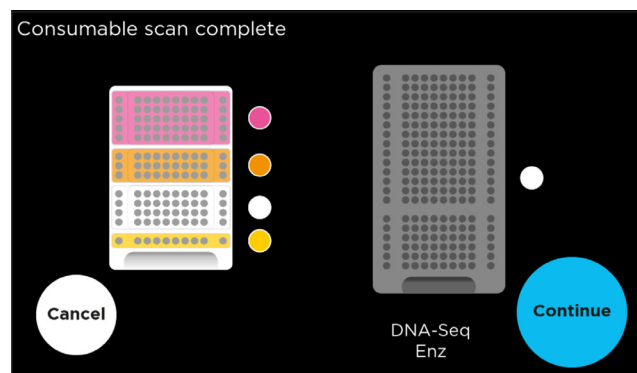

Figure 11. The consumable barcodes are scanned by the MagicPrep instrument.
6. Select the input range that corresponds to your sample input amount and touch “Confirm” (Figure 11).